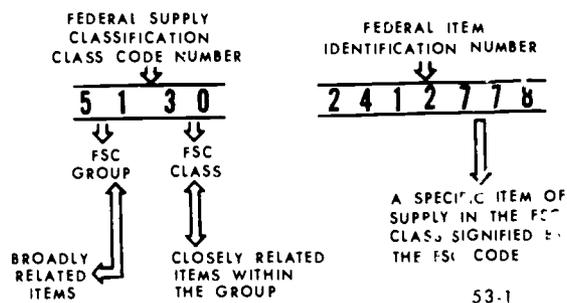

Figure 1 Federal classification.
4-5. **Stock number.** To use a USAF stocklist you need to understand Federal stock numbers (FSN). At present, there are 76 Federal Supply Class (FSC) groups which are divided into approximately 564 classes. A four-digit code number is used to identify the group and class. For example, in FSC code 5130, the first two digits (51) identify the FSC group (handtools) and the last two digits (30) identify the FSC class (handtools, power driven). Figure 1 shows a Federal stock number for an item of supply. A stock number normally consists of 11 digits: a four-digit classification code number, plus a seven-digit Federal item identification number (FIIN). As explained in figure 1, the item identification number, 2412778, identifies a specific item in class 30 of group 51 of Federal supply items.